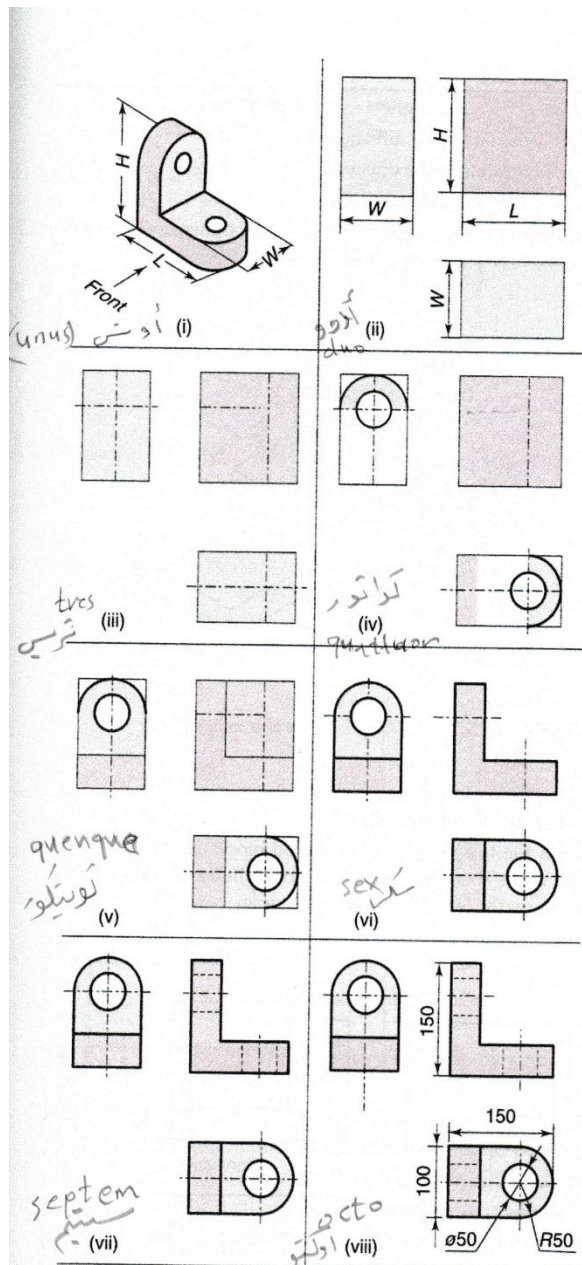

Fig. 5.19 Drafting procedure of orthographic views
7. The object whose orthographic views to be drawn, is shown in Fig. 5.19 (i). Locate the spaces for the different views as shown in Fig. 5.19(ii). For better appearance, equal spaces may be left between the views. However, necessary space for printing dimensions, notes etc., should be provided while leaving space between the views.
8. Based on the shape of the object locate the centre lines of the object as shown in Fig. 5.19 (iii).
- (i) Draw circle, semicircle, arcs first in thick line as shown in Fig. 5.19 (iv).
- (ii) Draw straight lines which constitute the overall shape of the object in thin lines as shown in Fig. 5.19 (v).
10. Draw all the remaining details to be drawn on all other views except the hidden lines as shown in Fig. 5.19 (vi).
13. Draw the necessary hidden lines as shown in Fig. 5.19 (vii).
14. Mark dimensions as shown in Fig. 5.19 (viii).